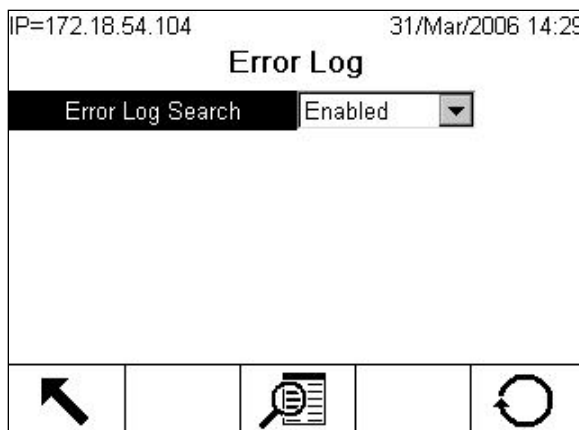

Figure C-39: Error Log Configuration Screen
1. Press the SETUP softkey  and select **Maintenance > Configure > Error Log**. The Error Log configuration screen (Figure C-39) displays.